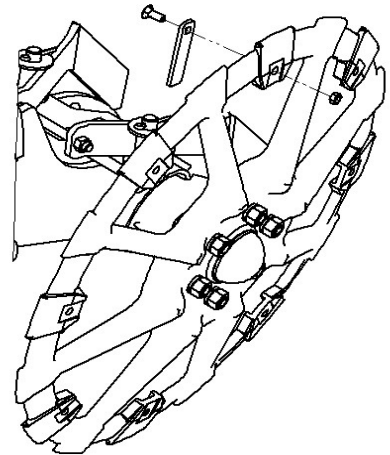

Figure 7-12: Adding or Removing Rim-Mounted Filler Tabs
**NOTE:** If bolts (B) are removed, they must be reassembled in holes (C) shown below in Figure 7-12. The bolts must line up exactly in line with the opposite spokes of the lifter wheels or they will not line up correctly on the wheel fillers.
2. Fasten with a bolt and nut as shown in Figure 7-12.